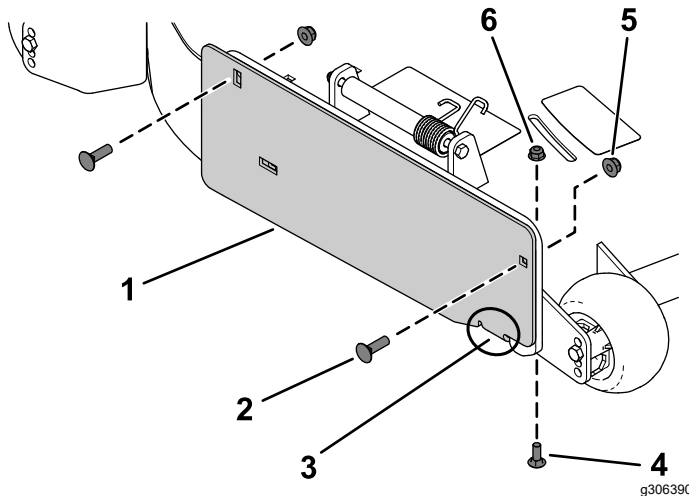

Figure 3
1. Secure the discharge cover plate to the outside of the mounting bracket using 2 carriage bolts (3/8 x 1-1/4 inches) and 2 locknuts (3/8 inch) as shown in Figure 3.
2. Secure the tab to the inside of the mower deck using 1 carriage bolt (5/16 x 7/8 inch) and 1 flange nut (5/16 inch) as shown in Figure 3.